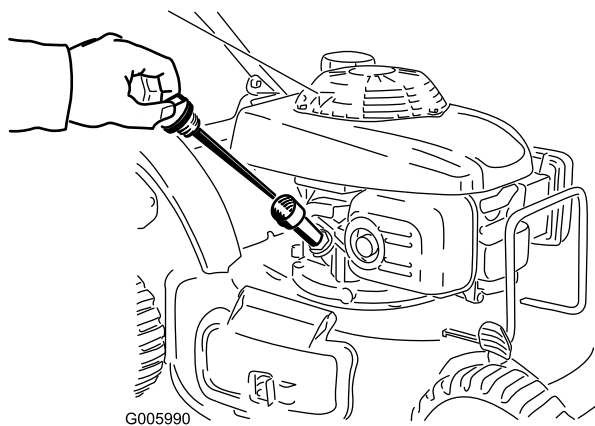

Figure 9
1. Remove the dipstick (Figure 9).
2. **Slowly** pour oil into the oil fill tube, periodically checking the level with the dipstick, until the dipstick indicates that the engine is full as illustrated in Figure 9. **Do not overfill.** (Max. fill: 20 oz. (0.55 l), **type: SAE 30W detergent oil** with an API service classification of SH, SJ, SL, or higher.)